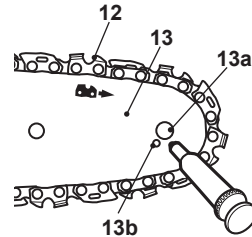

Fig. 41
**NOTE:** It is not necessary to remove the saw chain (12) to lubricate the sprocket wheel (13a). Lubrication can be done on the job.
2. Using a disposable lube gun, insert the needle nose into the lubrication hole (13b) (Fig. 41) and inject grease until it appears at the outside edge of the sprocket wheel (13a).
3. Rotate the saw chain (12) by hand. Repeat the lubrication procedure until the entire sprocket wheel (13a) has been greased.